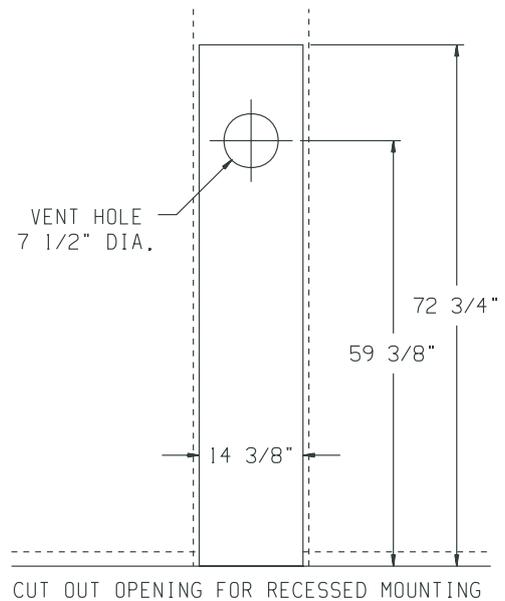
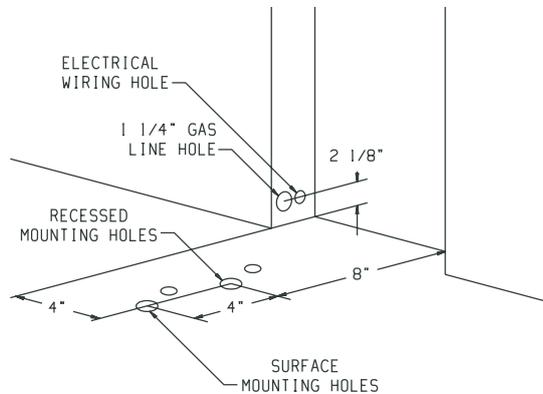

Figure 5
Figure 7
The furnace is to be located on an outside wall. Locate wall studs so that wall opening will be located between wall studs. The furnaces is 14 1/8" (358mm) in width and can be recessed between standard 16" (406mm) on center wall stud. The wall opening required as shown in Figure 5 is a diameter of 7 1/2" (191mm).
A template is provided in furnace carton for positioning furnace on the wall. Also, refer to Figure 5 and Figure 7 for positioning the furnace on wall and for locating gas line connection.
Refer to Figure 5 for the location of the 7 1/2" (191mm) diameter wall opening for the furnace. After the wall opening has been located and cut, position flue outlet on furnace in center of wall opening. When attaching furnace to the wall, remove that portion of baseboard and molding on the wall which is behind the furnace. Attach furnace to wall, at the outer casing top, with (2) toggle bolts provided and to floor, at the out casing bottom, with (2) #10 x 1 1/2" (38mm) screws provided.